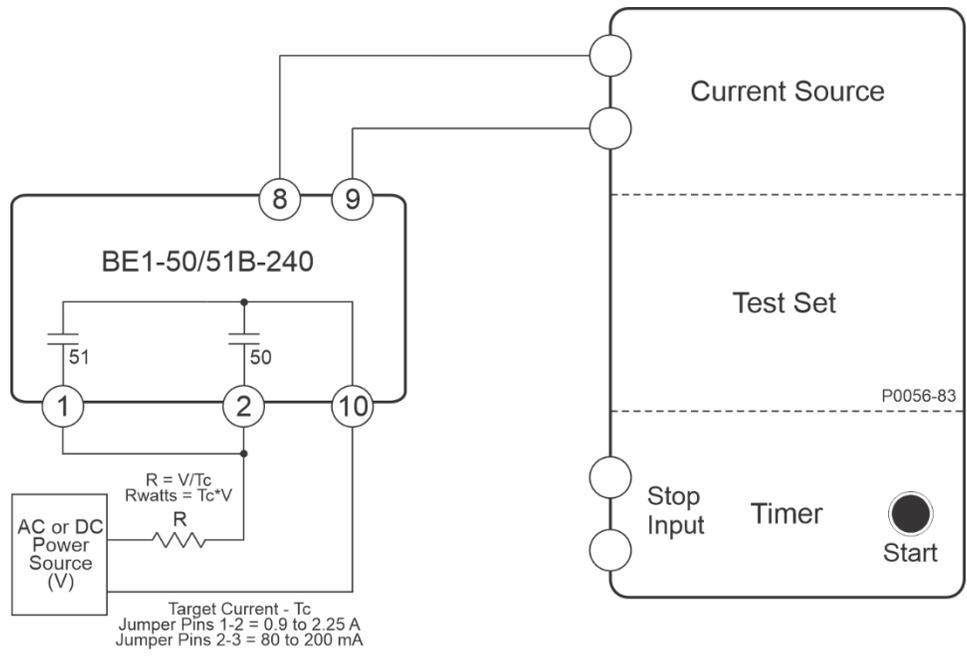

Figure 5-2. Target Indicators Test Setup
- a. Connect the test setup shown in Figure 5-2.